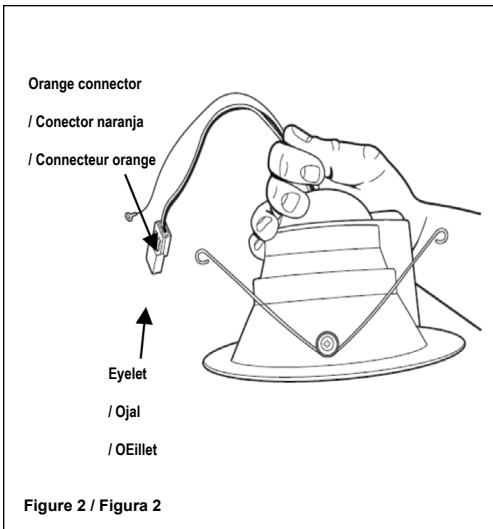

Figure 2 / Figura 2
**NOTE – DO NOT LET THE MODULE HANG UNSUPPORTED BY THE ORANGE CONNECTOR** (Figure 2)
**REMARQUE – NE PAS LAISSER LE MODULE PENDRE DANS LE VIDE AVEC LE CONNEXEUR ORANGE** (Figure 2).